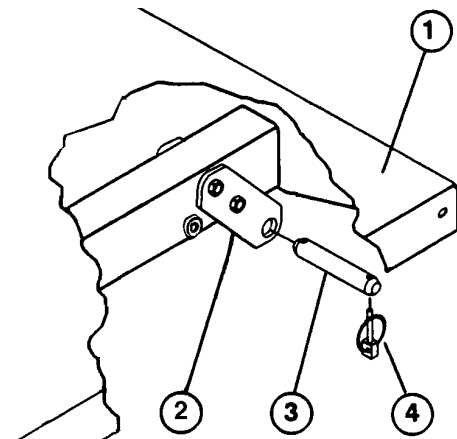

Figure 2
1. Remove the clevis pins and lynch pins installed to the bed pivot plates for shipping (Fig. 2).